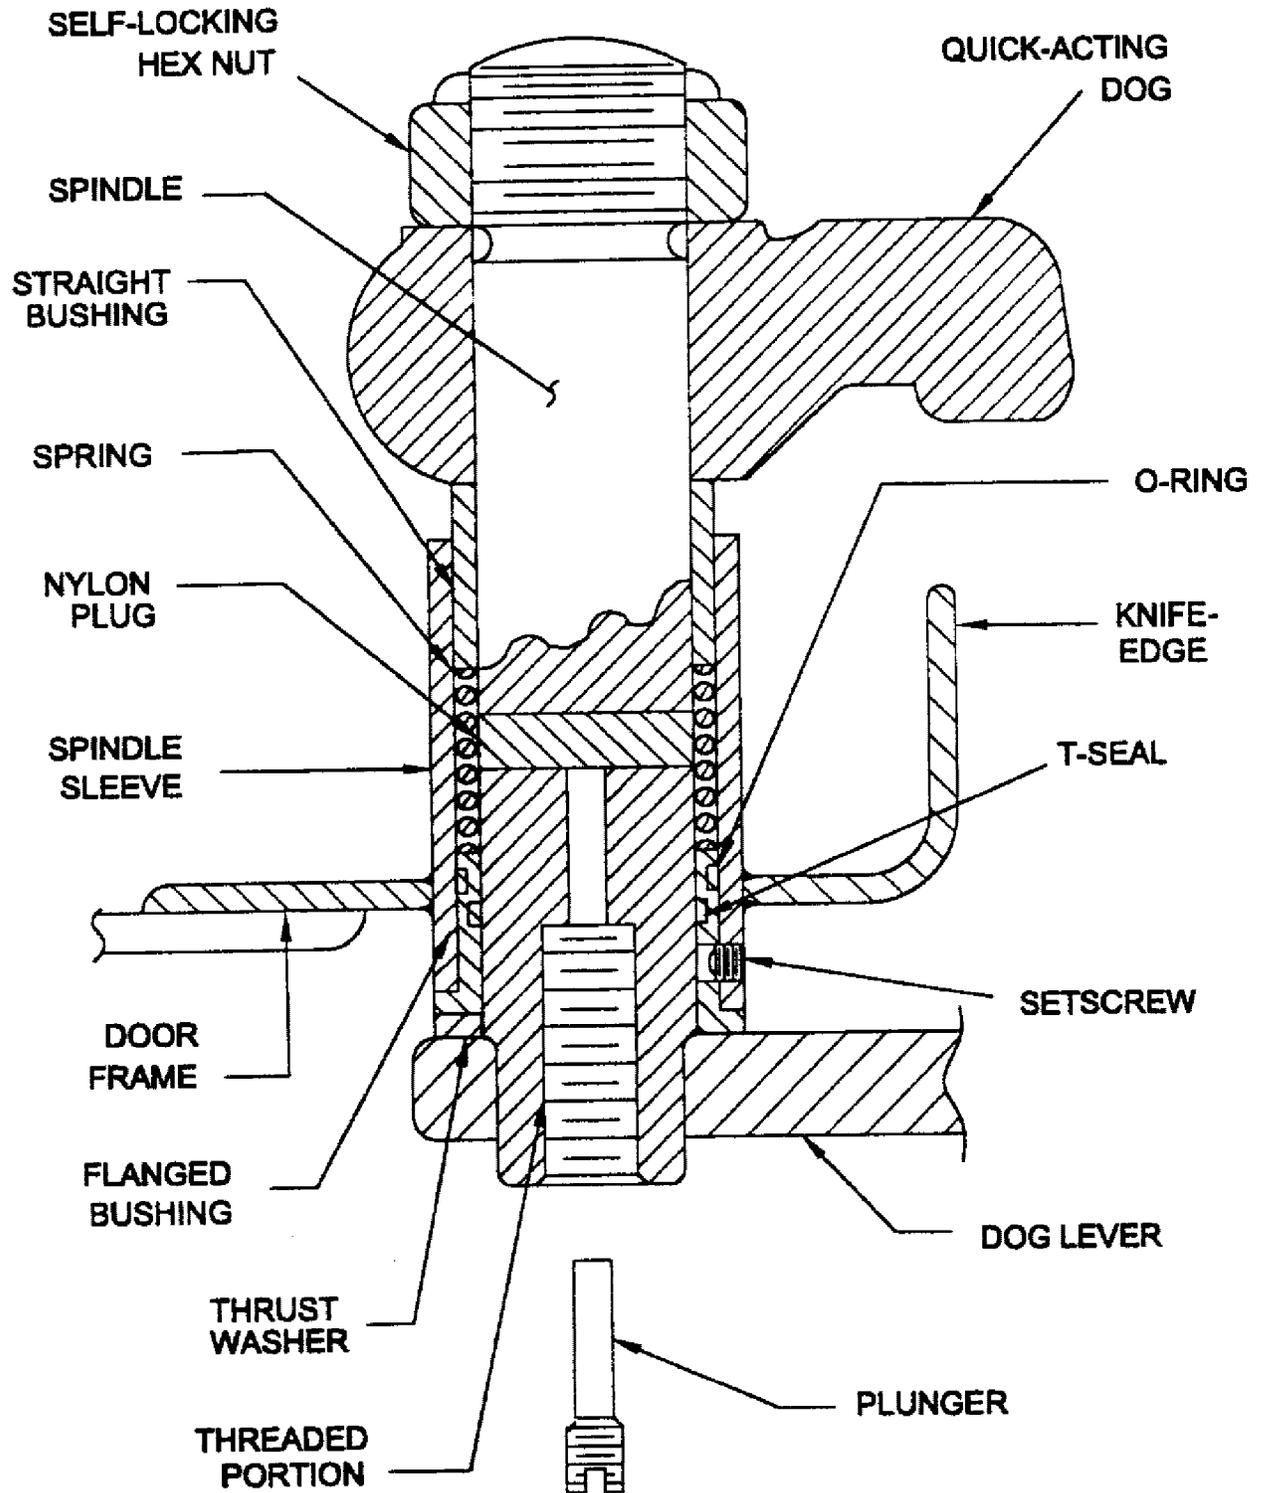

Figure 1-19. Quick-Acting Door Dog Assembly (Cross Section View) Modified by MACHALT 167-31006 (ECP-486)
- b. MACHALT 167-31006 (ECP-486) removes the Oilite bronze or CRES flanged and straight bushings, jamnuts, helical spring, and MIL-R-900 gaskets, and installs self-locking nuts, thrust washers, self-lubricated flanged and straight bushings, and silicone rubber gaskets in LHA-1 Class steel interior quick-acting and individually dogged watertight/airtight doors. (See figure 1-19.)